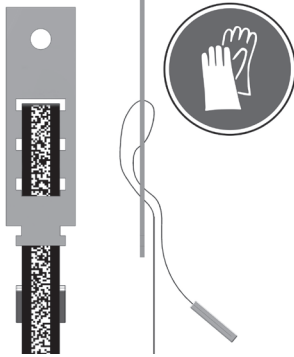

Figure 24: Top tension lock threading
1. Thread the end of the code tape into the top tension lock (Figure 24).